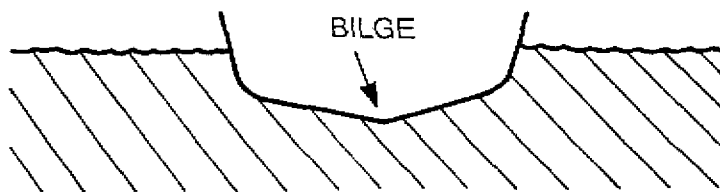

Figure 5:1
- (1) BENCHES - Seats that run fore and aft. These may also provide floatation.
- (2) BILGE - The inside bottom of the boat adjacent to the keel. The Bilge is also the foul water that collects inside a boat's bilges. (see Fig 5:1)